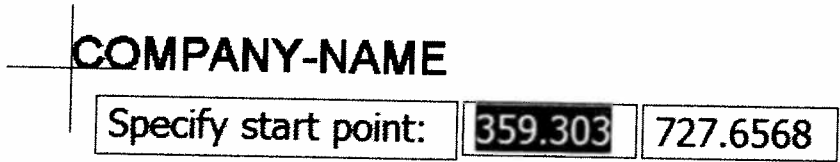

Figure 6-6a
4. The prompt to specify the start point of the attribute will appear, Figure 6-6a.